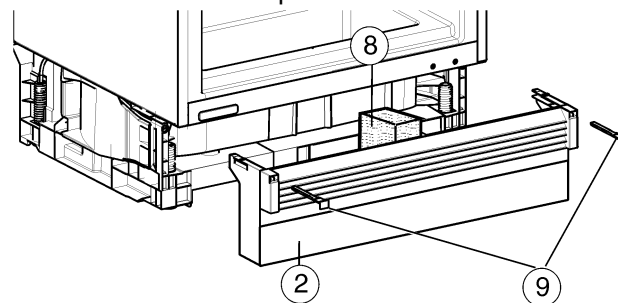

Fig. 13
- ▶ Insert the foam element Fig. 13 (8) - functionally important for separate air currents!
- ▶ Reinstall the plinth trim Fig. 13 (2).
- ▶ If the plinth trim Fig. 13 (2) is visible, pull it forward as far as possible so that the front edge of the ventilation grid and the unit plinth trim lie flush.
- ▶ If the plinth trim Fig. 13 (2) is covered, push it fully back.
- ▶ Make sure the ventilation slots are completely unobstructed: If necessary, crop the height of the unit plinth trim (U)!
- ▷ Adjust the height of the rack (V) below the appliance plinth trim along the width of the recess (W).
- ▶ Affix the plinth trim: Keep a steady grip on the plinth trim and insert the latch Fig. 13 (9).